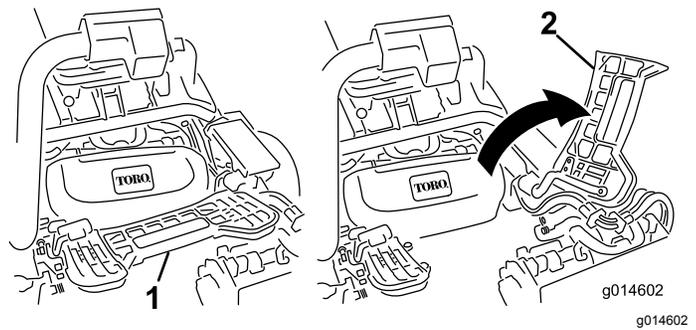

Figure 48
2. Lift up on the foot rest and swing it open, allowing access to the center cutting unit position (Figure 48).